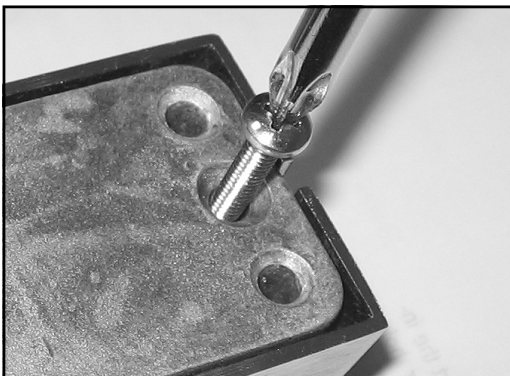

Fig. 7: The Phillips screw on the rear side locks or unlocks the battery cover. *Do not remove screw.*
7. Loosen the #8-32 Phillips pan head screw located on the rear side of the base plate at the bottom of the lock (see Fig. 7). Turn counter-clockwise until the battery cover slides off the housing. Do NOT remove the screw.